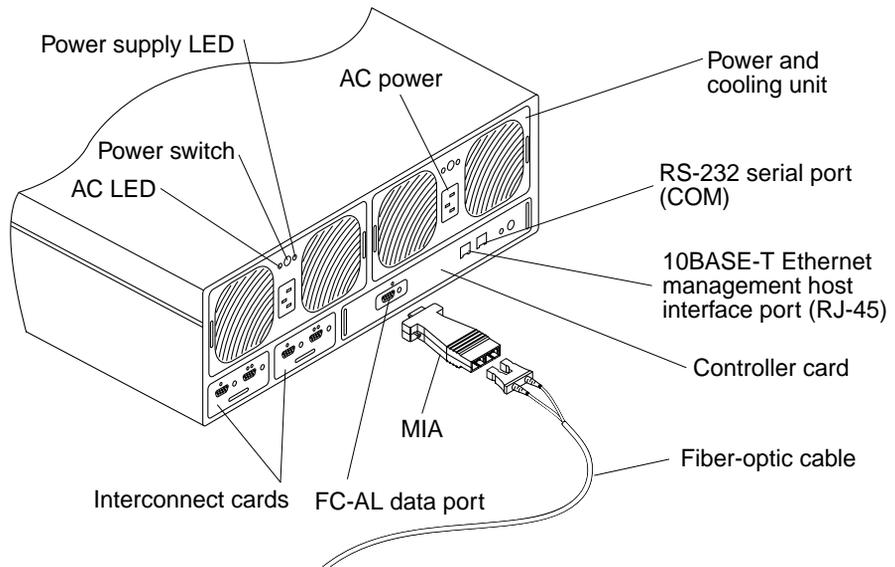

FIGURE 2 Array Back Panel Details
Use a Media Interface Adapter (MIA) to connect the fiber-optic cable as shown in FIGURE 2 on page 7.
1. Connect a terminal to the COM port (see FIGURE 2 on page 7) on the back of the MCU array.